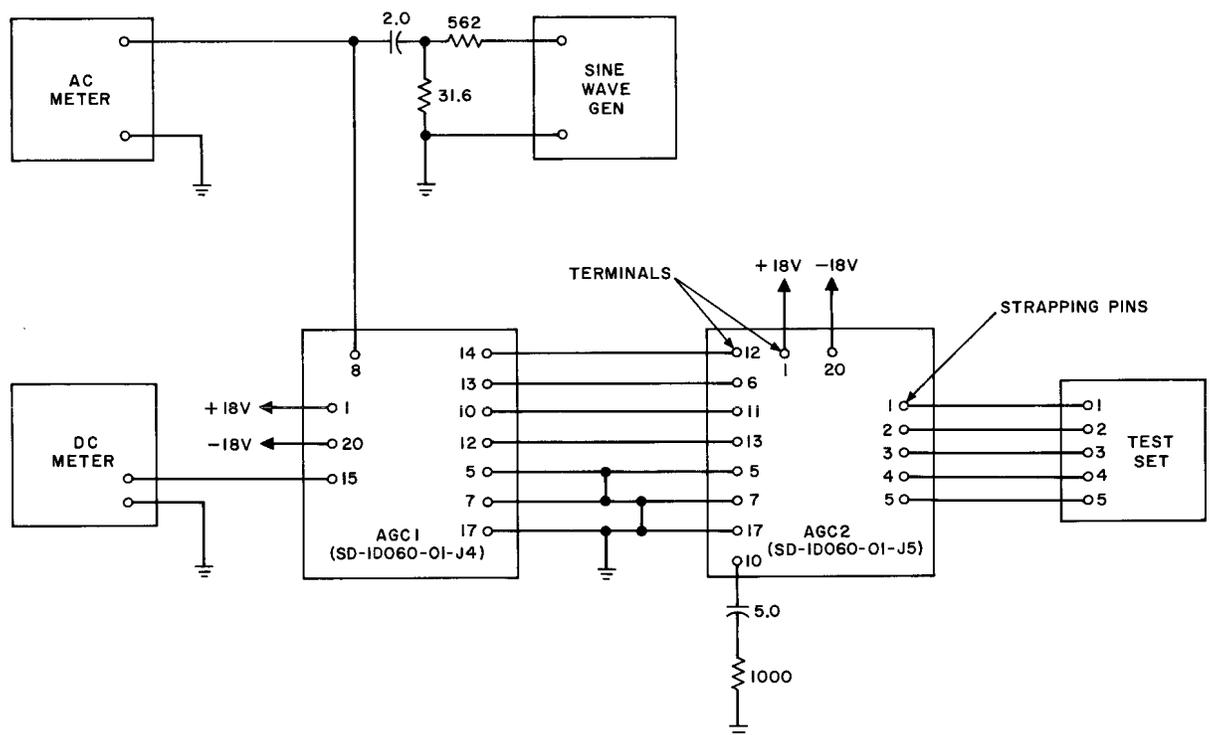

Fig. 25A — Automatic Gain Control 2 Test Circuit
(1) The gain adjustment of the AGC2 circuit pack is made in conjunction with the AGC1 circuit pack. Connect the circuit packs to the suggested test circuit shown in Fig. 25A. Connect power to both circuit packs as specified in 5.18A.
(3) Connect the sine-wave generator in series with a 2.0 uf capacitor to terminal 8 of the AGC1 circuit pack as shown in Fig. 25A. Set the frequency of the generator to 1800 Hz (± 5 percent) and adjust the amplitude to obtain a 13.1 (± 0.05) mV rms signal between terminal 8 and ground of the AGC1 circuit pack. The voltage between terminal 15 and ground shall be $+6.5$ (± 0.8) Vdc.
(4) Rotate switches A and B on the test set, beginning with both switches at position 1, according to the sequence given in Table C, until the voltage between terminal 15 and ground on the AGC1 circuit pack switches to less than $+0.3$ Vdc. Note the position of the test set switches.
(5) Using the test set switch positions obtained in (4) consult Table C to determine which pins should be strapped.
(6) Remove the circuit pack from the test circuit and strap the appropriate pins according to the instructions given in A-A of AGC2 circuit pack assembly drawing A-835179.